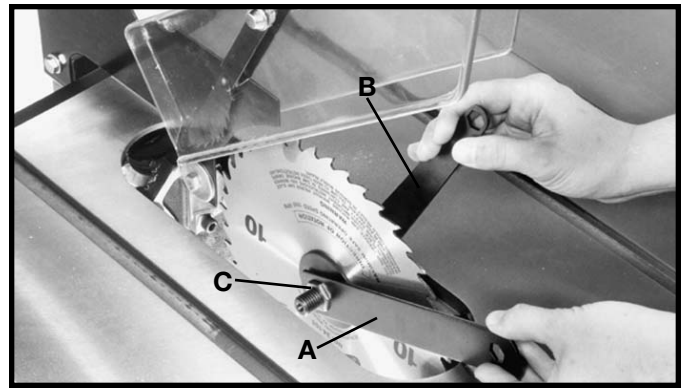

Fig. 50
4. Place the open end wrench (B) Fig. 50, on the flats of the saw arbor to keep the arbor from turning, and using wrench (A), turn the arbor nut (C) clockwise. Remove arbor nut, blade flange and saw blade.
5. Assemble the new blade, making certain the teeth are pointing down at the front of the saw table and assemble outside blade flange and arbor nut. With wrench (B) Fig. 50, on the flats of the arbor to keep it from turning, tighten arbor nut by turning wrench (A) counterclockwise.